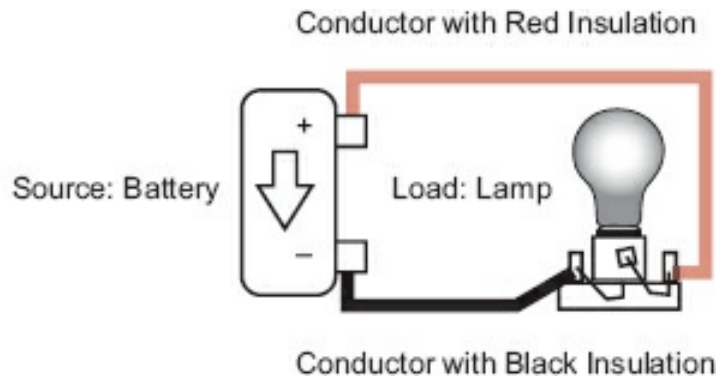

Figure 1-3. The complete conductive path.
For an electrical current to flow, there must be a complete path from the point of high pressure to the point of low pressure. This concept is different from the water tower analogy, yet it is still easy to grasp. To conduct electricity, conductors are used. These are the pipes in the water tower analogy. *Conductors* are made of materials that easily pass electrical charges. *Insulators* are made of materials that do not easily conduct electricity. Conductors, such as wires, are usually made of metals like copper or aluminum. Insulators are made of materials such as rubber, plastic, and some ceramics. Insulated wires (the most common kind) have an insulator wrapped around the wire to keep the charges from contacting the environment. Kirchhoff¹ stated that "no more charge could leave a point than arrived at that point," meaning that for a circuit to work, it must return a charge to the source for every charge the source emits into the circuit. This means there must be a complete circuit from the source's negative lead to the source's positive lead, that is, a complete path. Figure 1-3 illustrates a complete conductive path. Note that the charge emitted by the negative post returning to the positive post must also be performed internally in the battery from the positive post to the negative post to have a complete path. In lead acid batteries, this process is performed by the chemical interaction between the electrolyte and the lead plate.
The source develops the electric pressure or potential (difference in charge). This source could be a battery, a generator, or any method of generating a difference in charge. Again, this difference in charge is known as *potential* or, more formally, *electromotive force* (E). It is the electrical pressure that will cause current to flow in the conductors (drawn as connecting lines in Figure 1-3). There must be a conductive path from the negative side, through the load, to the positive side of the source. If there is no conductive path, there will be no way to equalize the difference in charge, and nothing to relate one terminal to the other. If you are at the positive terminal and measure the difference along the conductor to the positive end of the load, there will be no difference in charge. (*Note:* This may not be precisely true depending on the measuring equipment, as explained in later sections, but for our purposes at this time, any difference will not be significant.) The same can be said for the negative terminal of the source through the conductor to the negative terminal of the load. Notice in Figure 1-3 that the entire battery potential is across the load as the conductors extend the battery connections to the load.